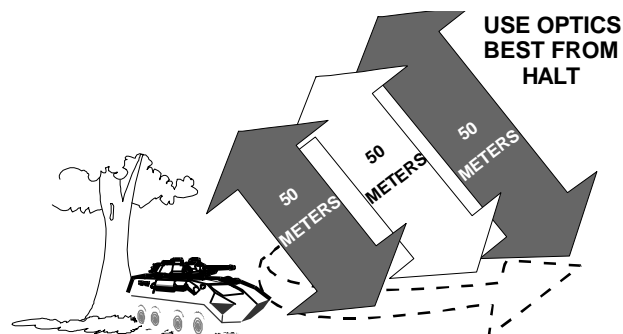

Figure 2-3. Slow (50-Meter) Scan.
(2) Slow (50-Meter) Scan. If no obvious targets are identified in the rapid scan, crew members conduct a more deliberate scan of the terrain by using internal optics or binoculars. (See fig. 2-3.) When in a defensive position or from a short halt, the vehicle commander or gunner—